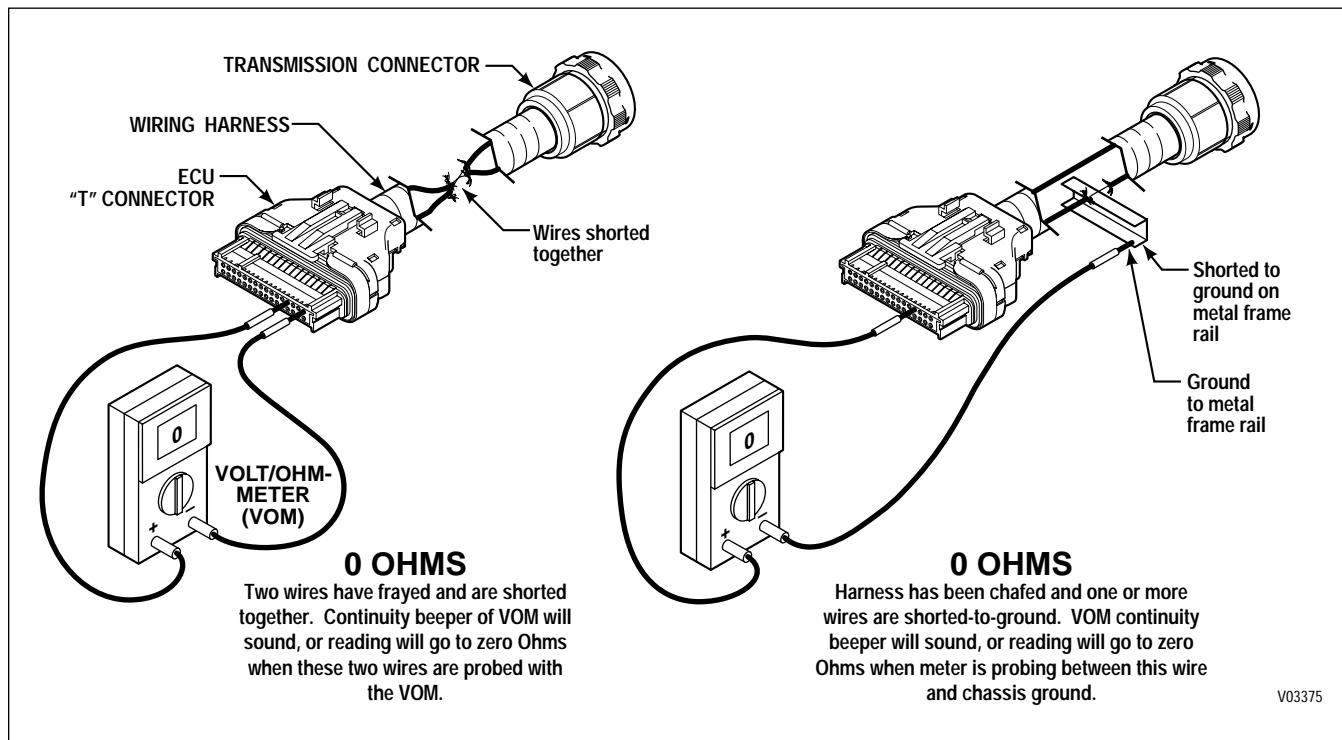

Figure 4–2. Short Between Wires and to Ground
- (2) On the opposite end of the harness, check the continuity of the jumpered pair. No continuity in a jumpered pair circuit (infinite resistance reading) indicates an open in the wire being tested. Locate and repair the damaged portion of the wire.
- b. If the continuity check is good (0–2 Ohms resistance), remove the jumpers. Check the harness for shorts between wires and shorts-to-ground by performing the following (Figure 4–2):
- (1) At the ECU end of the harness, touch one VOM probe to one wire of the circuit being tested and touch the other probe to each terminal in the same connector, then touch the probe to chassis ground and to the transmission main housing. Do this for both wires in the circuit being tested.
- (2) If at any time the VOM shows zero to low resistance, or the meter's continuity beeper sounds, there is a short between the two points being probed — wire-to-wire or wire-to-ground. Isolate and repair the short.